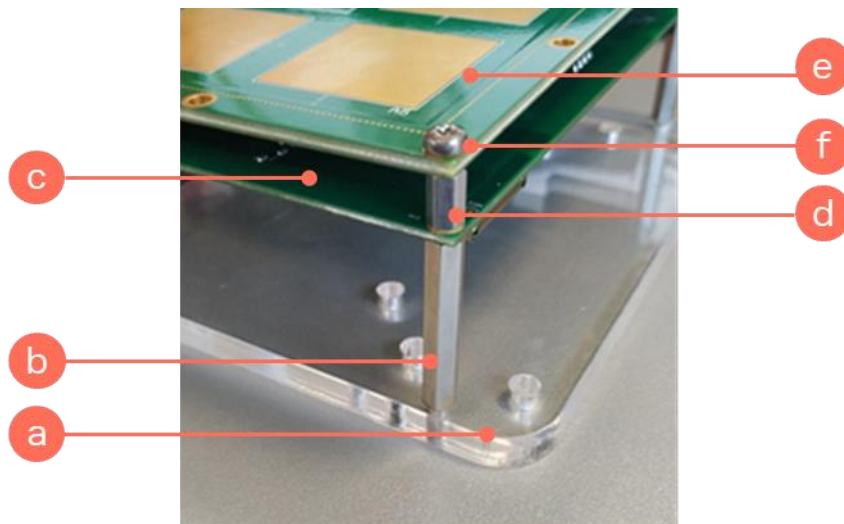

Figure 3: ANT-B10 and EVB-ANT-1 with plexiglass enclosure
2. Using the supplied standoffs and screws, assemble the two PCBs to the plexiglass, as shown in Figure 3. The assembly order of the components (see Kit includes) are as follows: